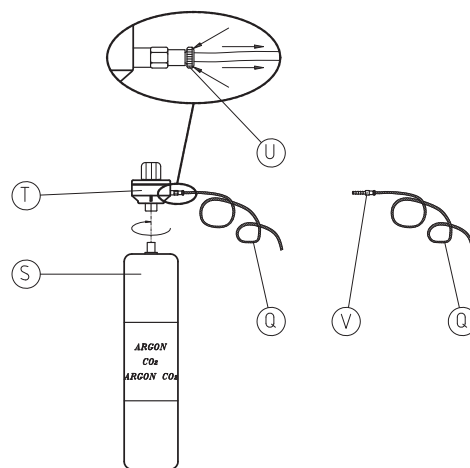

Fig.6
- Adapters – For the use of rechargeable gas cylinders you need an adapter for big gas cylinders (FIG.6).